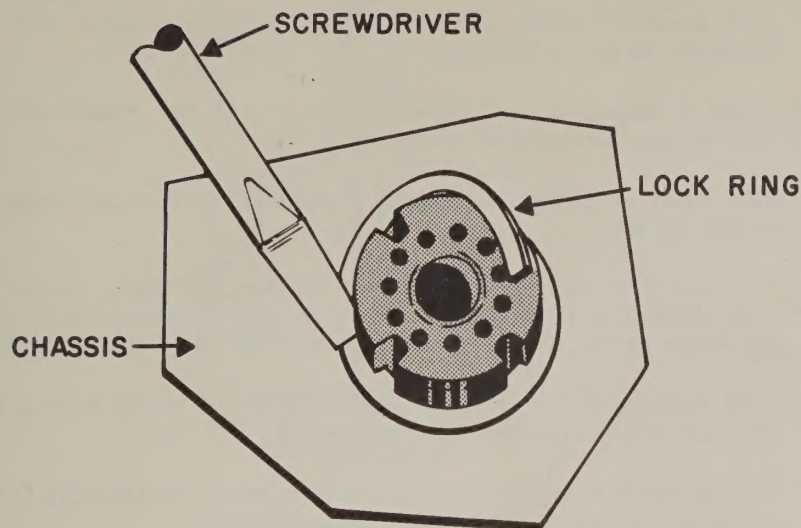

FIGURE 6. MOUNTING J-2
- ☐ J-2, 11-pin socket. Mount with a lock ring as shown in Figure 6.